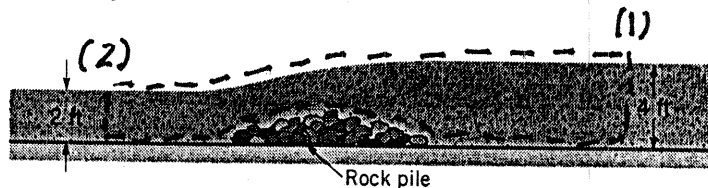

FIGURE P5.87
5.87 A 100-ft-wide river with a flowrate of  $2400 \text{ ft}^3/\text{s}$  flows over a rock pile as shown in Fig. P5.87. Determine the direction of flow and the head loss associated with the flow across the rock pile.